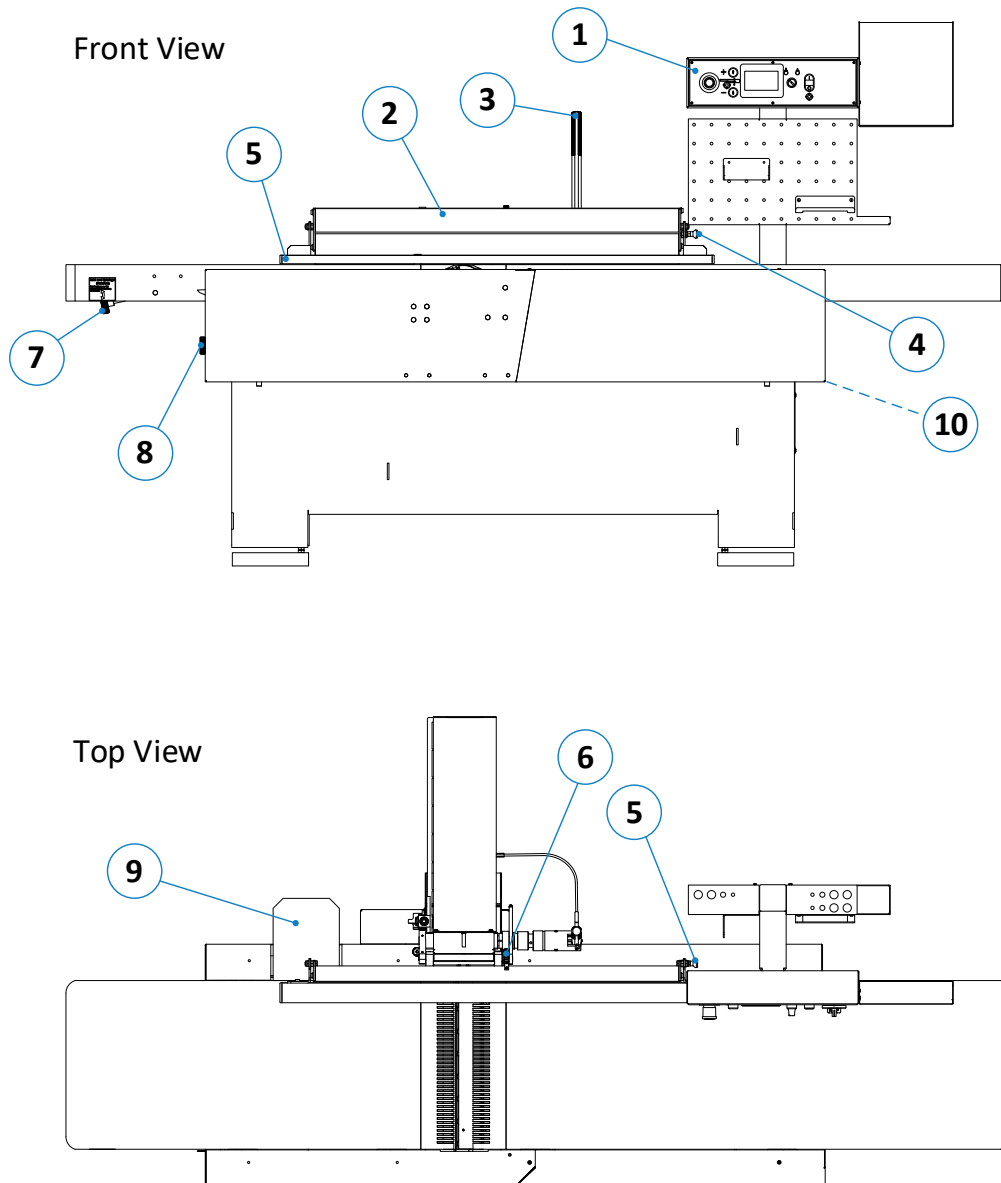

Figure 13: Components and controls (front view)
Auxiliary equipment such as angular jointing units or power feeders can be mounted on a console (9), which is already included in the scope of delivery of the machine (see also ⇒ Figure 13 on the next page).
This section shows a detailed view of the control panel (1) shown in ⇒ Figure 13. This large view provides a better illustration of the respective operating elements.